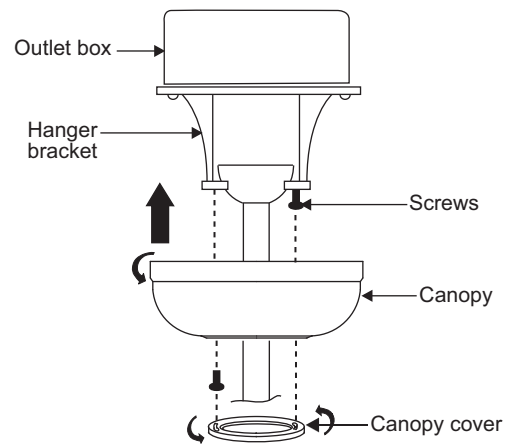

Figure 12
**Note:** Adjust the canopy screws as necessary until the canopy and canopy cover are snug. (Fig. 12)